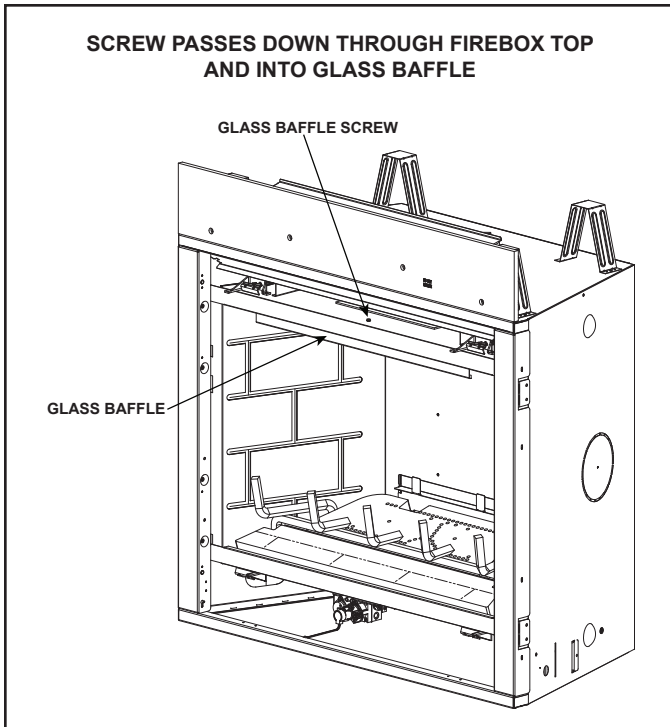
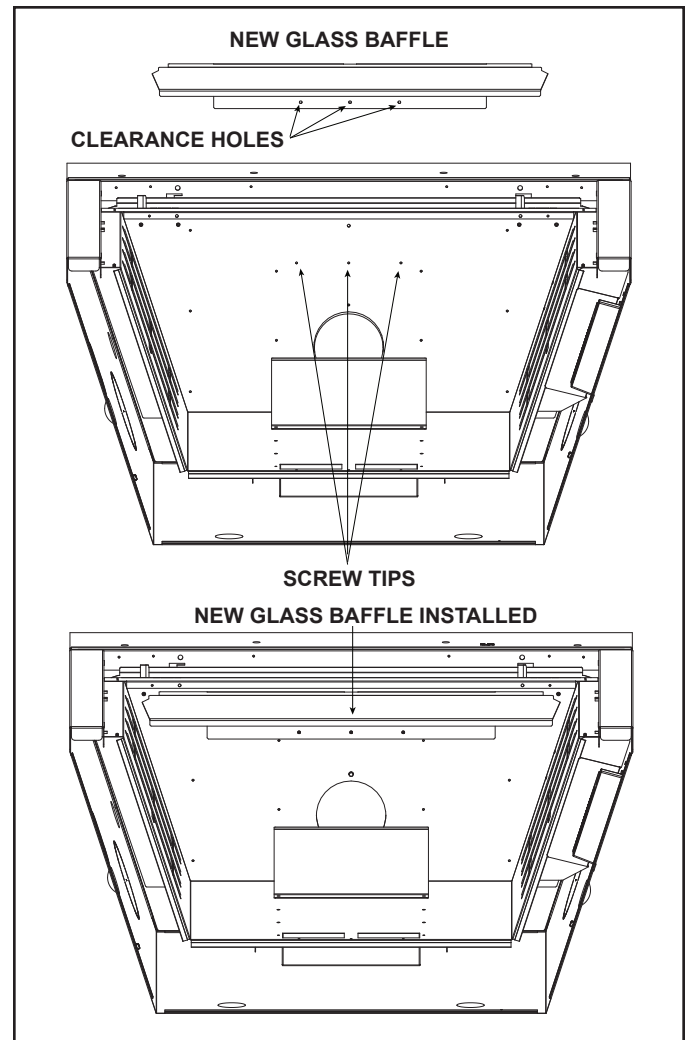

Figure 5. Remove Glass Baffle (6000C ONLY)
Figure 7. Install New Glass Baffle (6000C ONLY)
5. The optional refractory kit requires a larger glass baffle which is sent with the refractory set. To remove the old glass baffle, remove the screw located on top of firebox and discard the glass baffle. See Figure 5.
7. Install new glass baffle by aligning the three screw tips with the three clearance holes shown in Figure 7. Attach screw as shown in Figure 5.